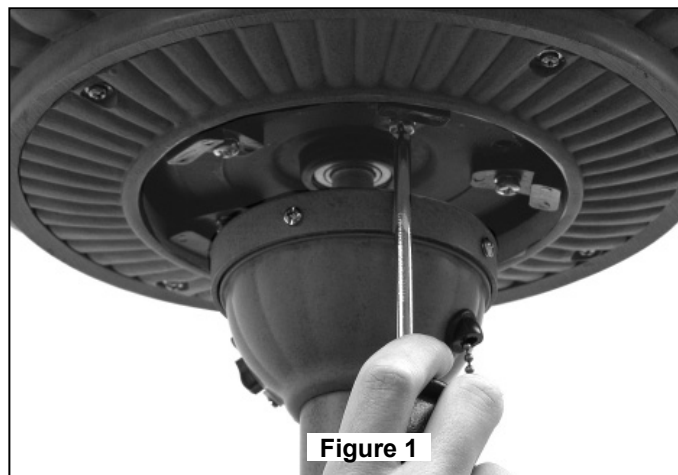

Figure 1
1. Remove and discard the (rubber) motor “stops” by removing the five screws. (Figure 1)